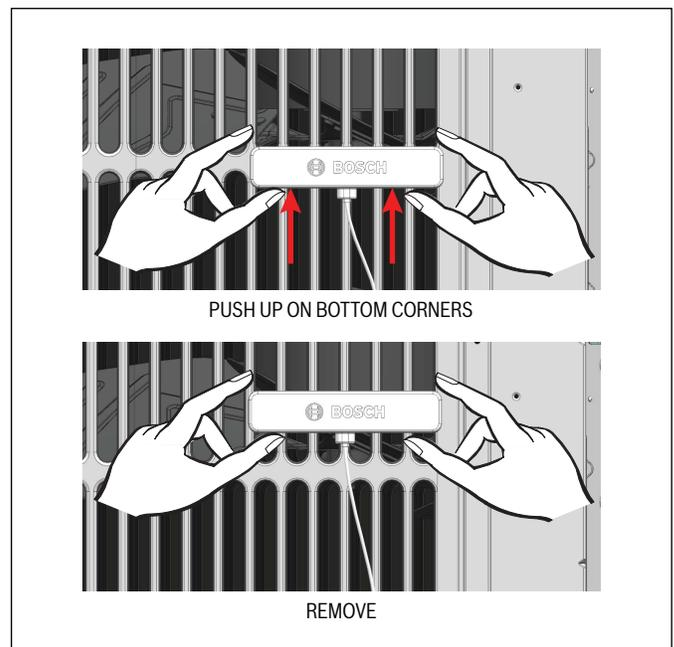

Figure 5
6. Remove the antenna from the louver by pushing up from the bottom corners of the antenna at the same time (Refer to Figure 5).